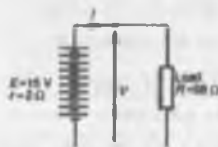

Figure 4.4
- (a) For ten cells, battery e.m.f., $E = 10 \times 1.5 = 15 \text{ V}$, and the total internal resistance, $r = 10 \times 0.2 = 2 \Omega$. When connected to a 58Ω load the circuit is as shown in Fig. 4.4